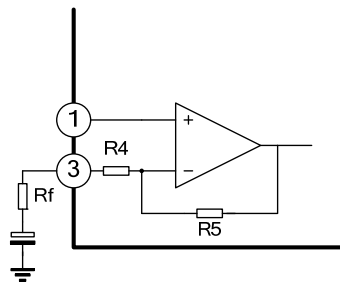

Figure 2
2. Adjustment of the voltage gain (Figure 2)
The voltage gain is fixed at $G_v=40\text{dB}$ by the resistors (R4 and R5) in IC. Its reduction is possible through adding R_f as shown in Figure 2. In this case, the voltage gain is obtained by the following equation: $G_v=20\log(R_5+R_4+R_f)/(R_4+R_f)$. It is recommended to use this IC with the voltage gain of $G_v=28\text{dB}$ or over.